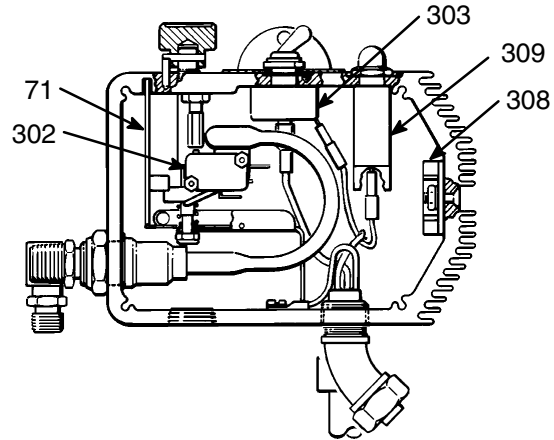

Fig 22-2
Disconnect the two leads from the motor to the bridge (308). Refer to Fig 22-2.